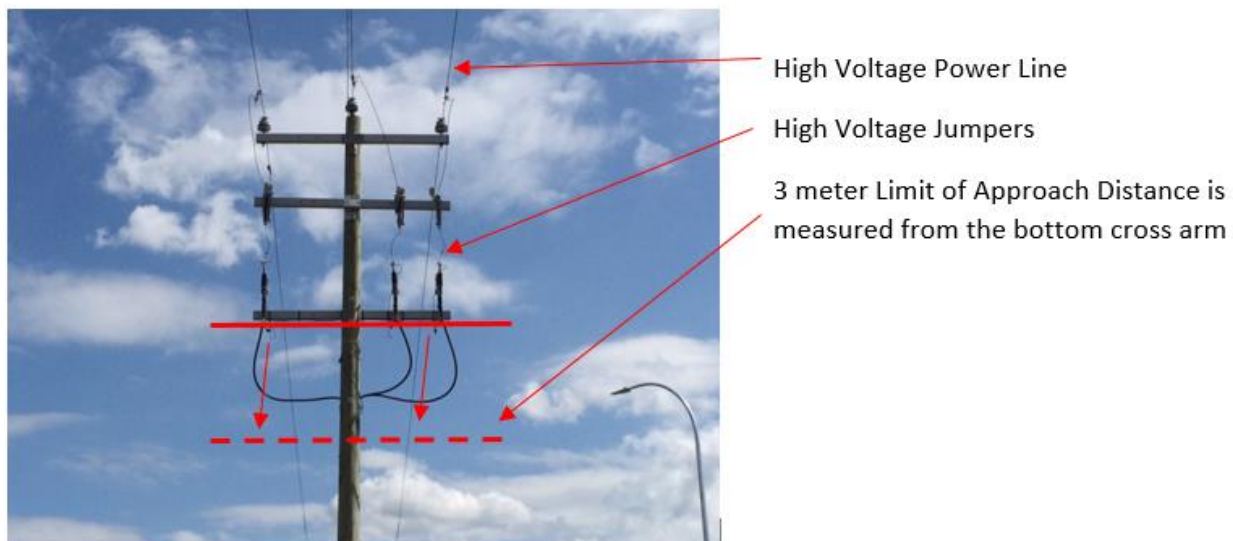

Figure 15 - Three Phase Power Line with 3 High Voltage Underground Cables
- 7.3.8. Figure 15 is an example of a 3 phase high voltage power line with 3 high voltage underground cables attached to it. These underground cables are attached to a crossarm on brackets and the brackets are considered to be the lowest location on the pole where the high voltage could be contacted. Therefore, the 3 meter limit of approach distance is measured down from the crossarm as indicated in the picture above.